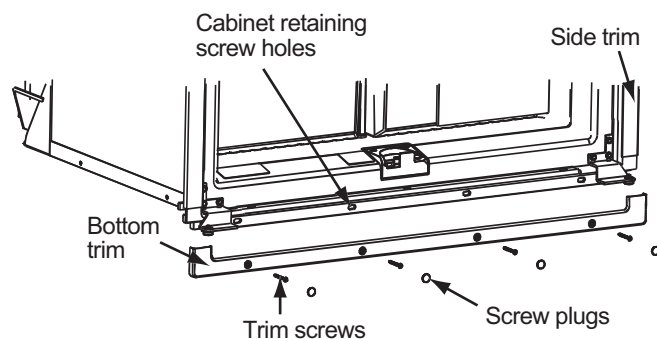

Figure 37. Bottom trim and cabinet retaining screws
3. Install all cabinet retaining screws. See Figures 37 and 38.
4. Reinstall trim pieces. See Figures 37 and 38.